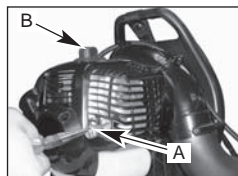

Fig. 26
1. To remove spark plug (B) (Fig. 26) for cleaning or replacement: make sure engine is off, spark plug is cool, then grasp spark plug boot firmly and remove from spark plug. Remove spark plug with correct spark plug tool. Inspect, clean or replace as needed.
1. To replace spark arrestor screen/collar assembly (A) (Fig. 26), use a needle nose pliers and pinch an edge of the collar. Pull out the whole spark arrestor screen assembly.